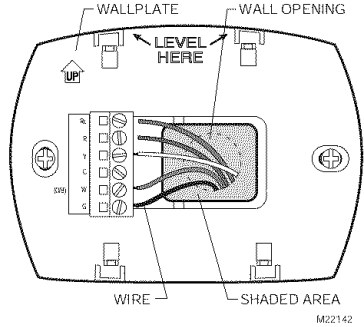

Fig. 5. Restrict wires to shaded area of wire hole.
2. Push excess wire back into the wall opening and restrict wires to the shaded area. See Fig. 5.